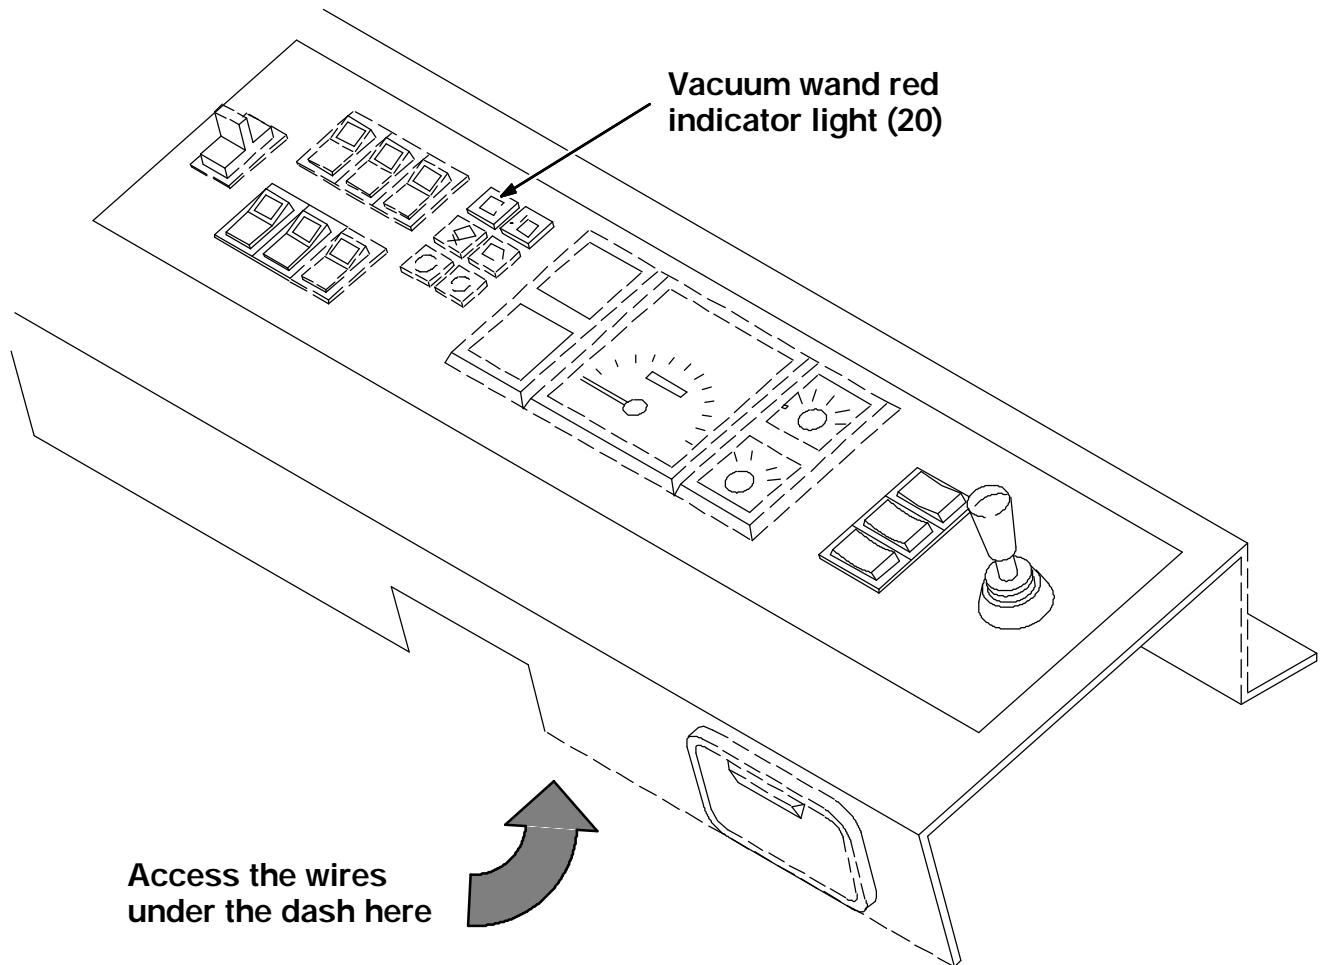

FIG. 2 - Dash Panel / Indicator Light Install
9. Go into the machine cab and locate the spot on the dash where the indicator light will be installed. Remove the plastic plug by reaching up under the dash panel. Snap the indicator light (20) in place. Locate a two prong plug with the wires #63B white and 52A green. Plug this in the back of the indicator lamp. (Refer to Fig. 2)